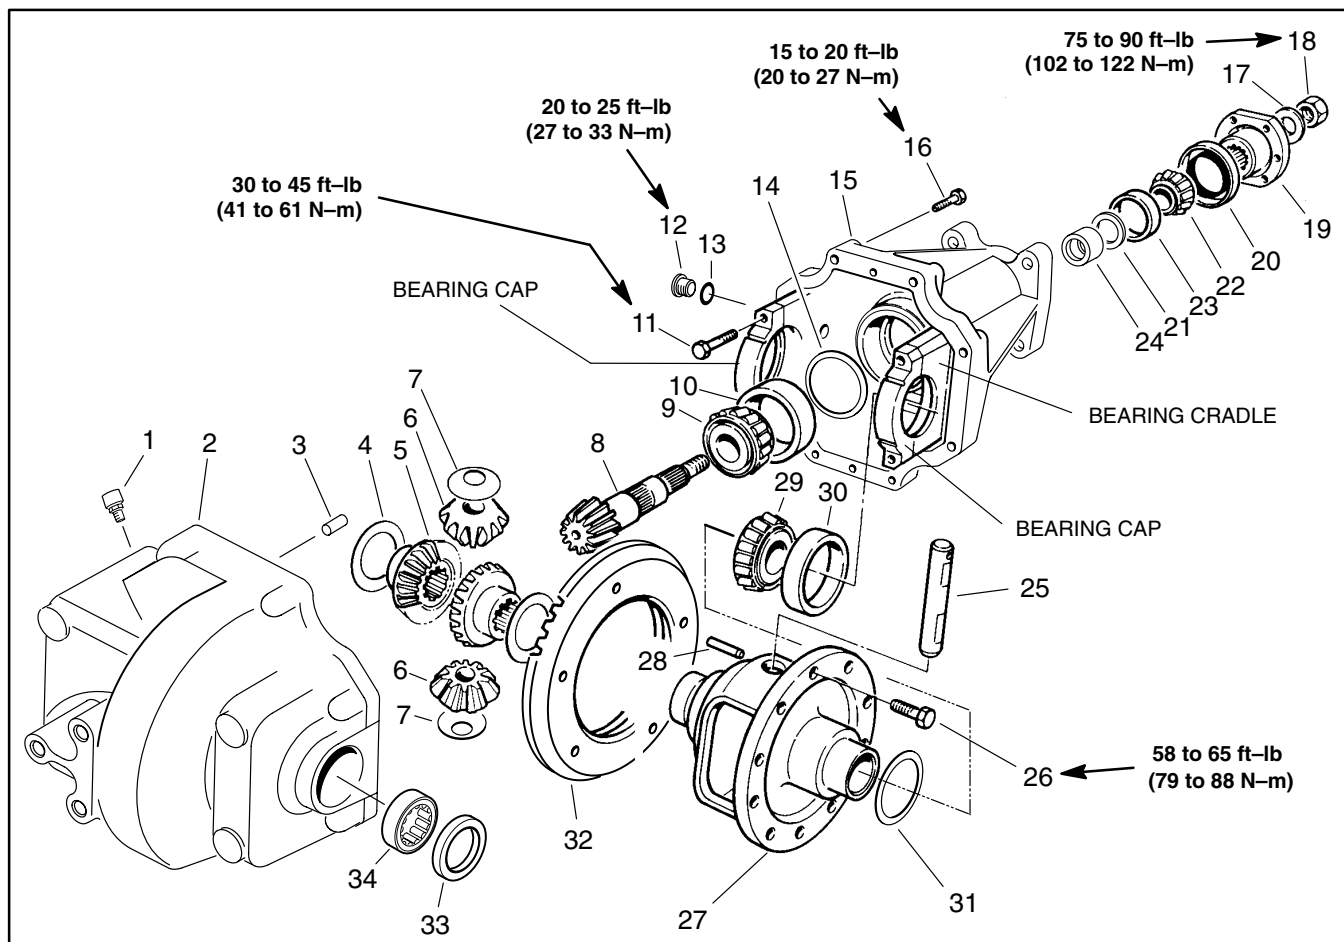
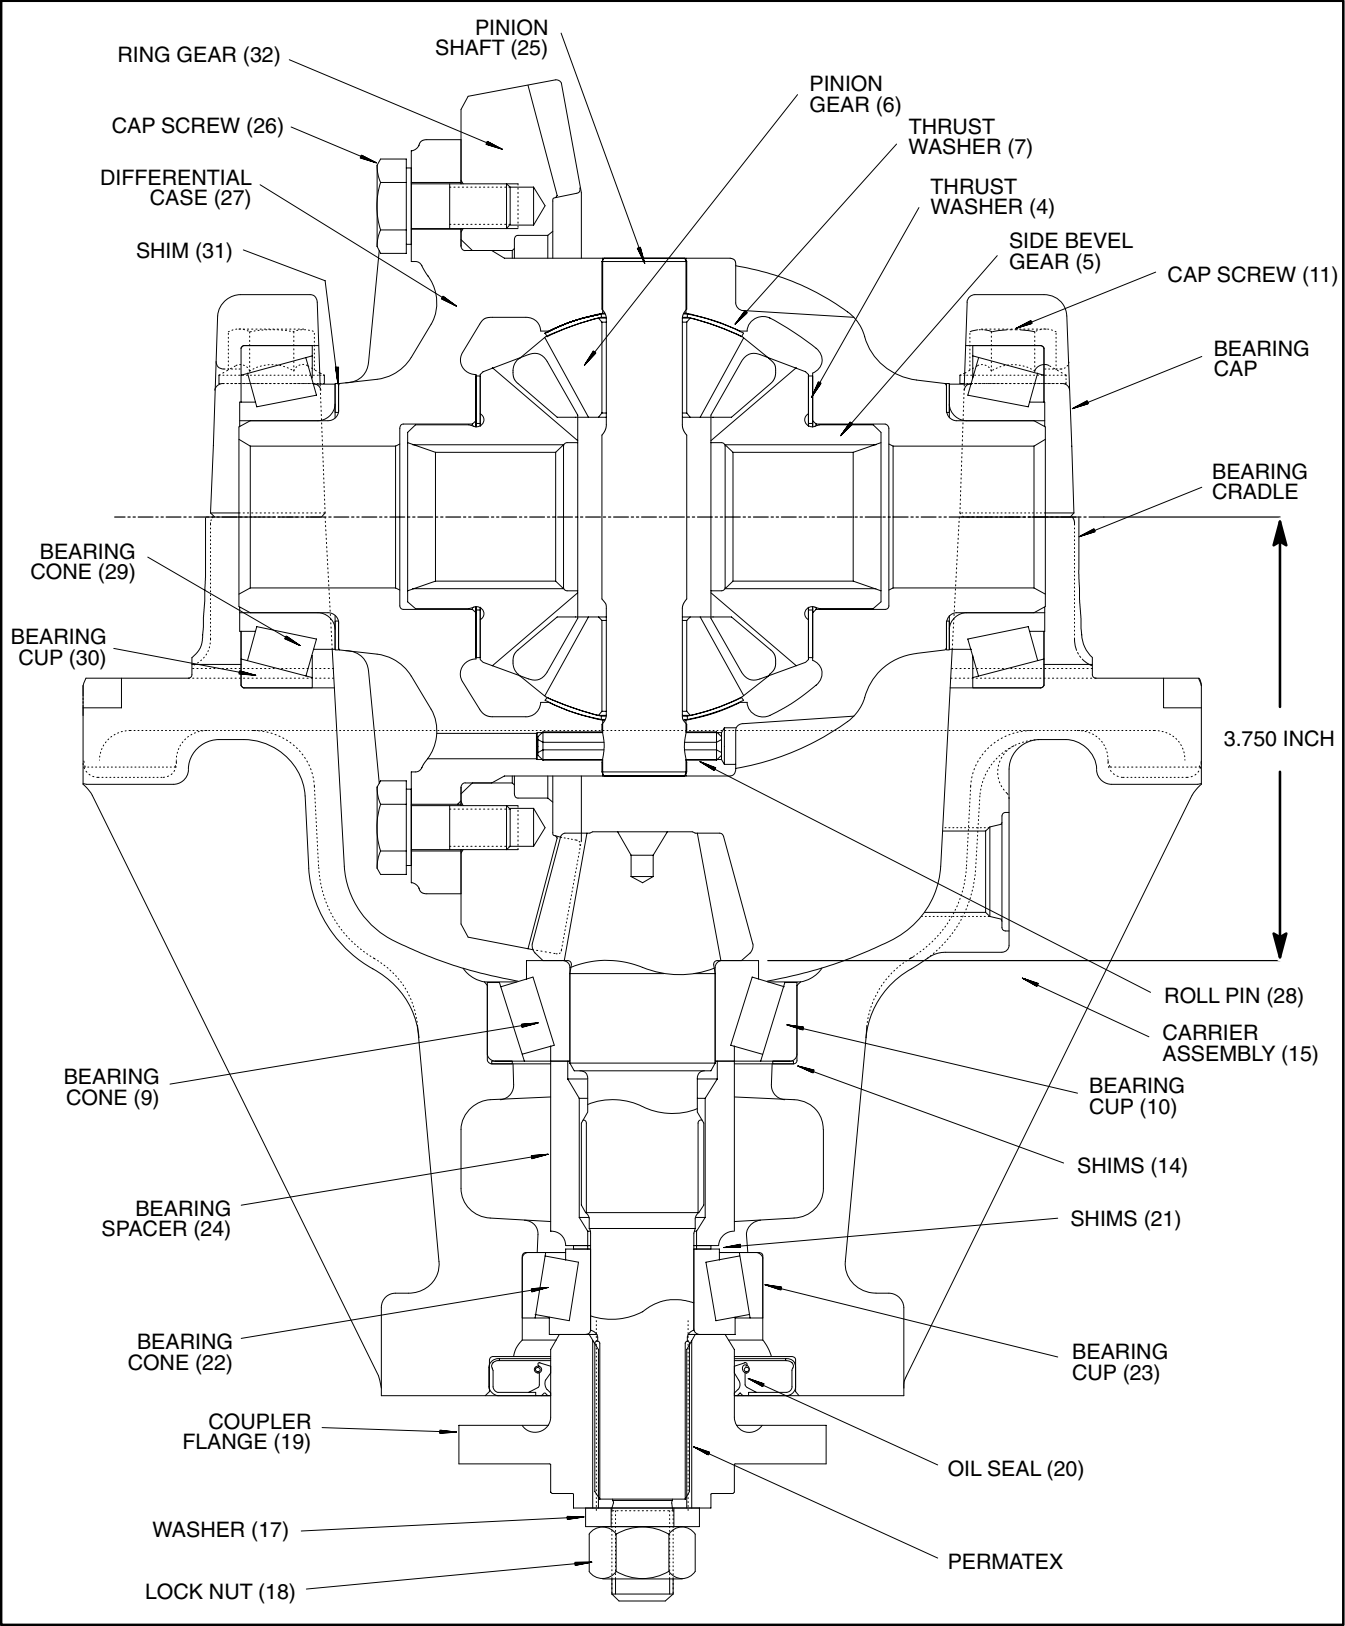

Figure 11
Figure 32
Disassembly (Fig. 11)
Inspection (Fig. 11)
Assembly (Fig. 11)
NOTE: In Figure 32, numbers in parentheses () correspond to the reference numbers in Figure 11.
The distance from the center line of the ring gear to the bottom of the pinion gear teeth is 3.750 inches (5.525 cm). This distance represents the best running position for the gear set (Fig. 32).
4. If a **new** carrier assembly (15) is being installed, proceed as follows:
A. Press bearing cup (10) into the assembly with out any shims (14).
B. Place pinion gear (8) with bearing cone (9) installed into the carrier assembly and bearing cup.
C. Measure and note distance from the centerline of the ring gear to the bottom of the pinion gear teeth using a depth micrometer (Fig. 32 and 37).